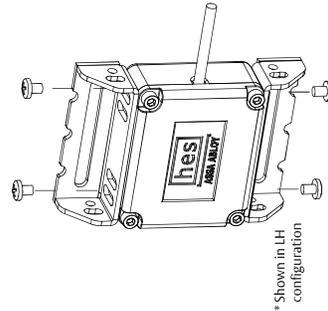

Figure 1: Installing the Mounting Brackets
1. ATTACH both lock mounting brackets to the lock body using four #6-32 x 3/16" screws, as shown in Figure 1, "Installing the Mounting Brackets."